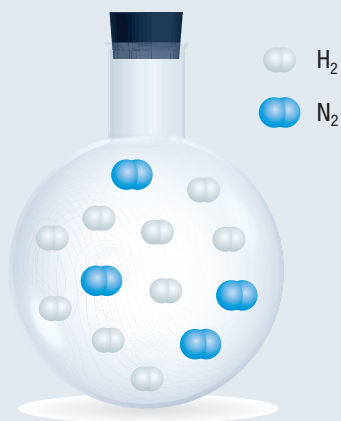

Figure 7 Nitrogen and hydrogen molecules about to react to form ammonia, NH_3
- Figure 7** shows a flask containing nitrogen and hydrogen. When the temperature of the flask is raised, these elements combine to form ammonia: